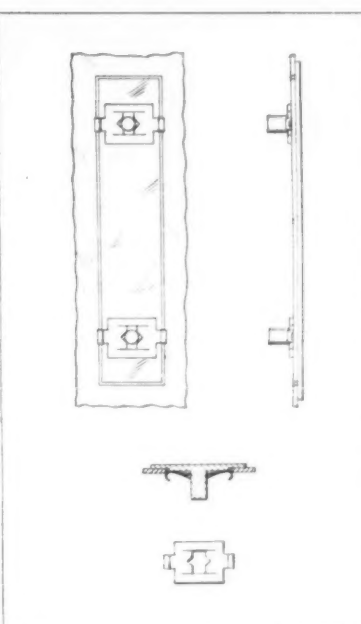

Fig. 5. "Speed Clips" Used on Die-cast Studs
A set of broaches consisting of the master broach-head and the lower clamping receptacle is shown at *B* in Fig. 5. The illustration also shows the work fixture at *A* and one of the individual
Fig. 5. (A) Work Fixture with Central Stud for Locating the Pinion Blank; (B) Broach for Cutting a Nine-tooth Pinion in One Stroke; (C) One of Nine Tooth-space Broaches to be Assembled in its Lower Receptacle, as Shown at (B); (D) Pinion Blanks to be Broached; (E) Pinions with Broached Teeth
Take-out plates are often die-cast with integral studs, and can be held in place by "speed clips" of the type shown in Fig. 5. This clip is anchored to the stud in the same way as a "speed nut," but its ends are curved backward and are made yielding, so as to spring inward when the plate is pressed into the hole it is to cover. The ends of the clip immediately spring outward again to grip the edges of the hole and hold the plate in place, at the same time permitting ready removal when required. The opening covered by the plate is slightly narrower than the length of the clip, as shown in the illustration, but similar clips can be used on wider plates if the studs are spaced the correct distance from the edges of the plate.